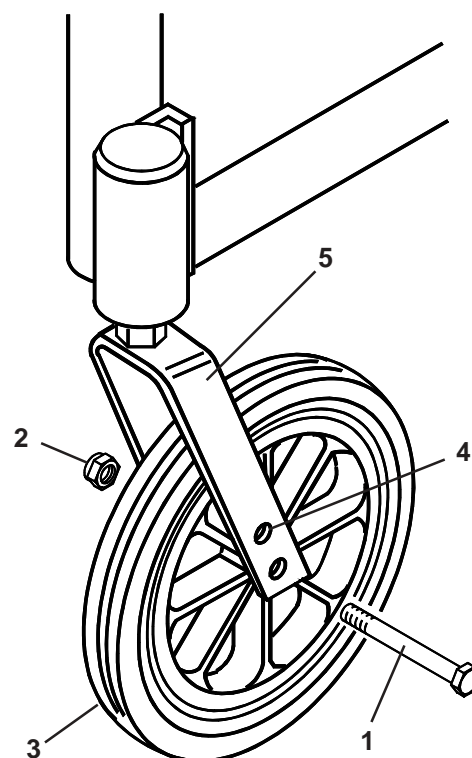

Fig. 44
Two-hole castor forks (Fig. 44) allow you to interchange 127mm (5"), 152mm (6") and 203mm (8") castor wheels and to adjust the seat height. To adjust, remove the 13mm A/F axle bolt (1) and nut (2) with 13mm A/F spanners and remove the castor wheel (3). Either change the castor wheel size and/or position the castor wheel upward or downward in the desired pre-drilled holes (4) 25mm (1") apart on the castor fork (5). Replace the bolt and tighten to 27Nm torque. Follow castor angle adjustment on page 32, Fig. 42.